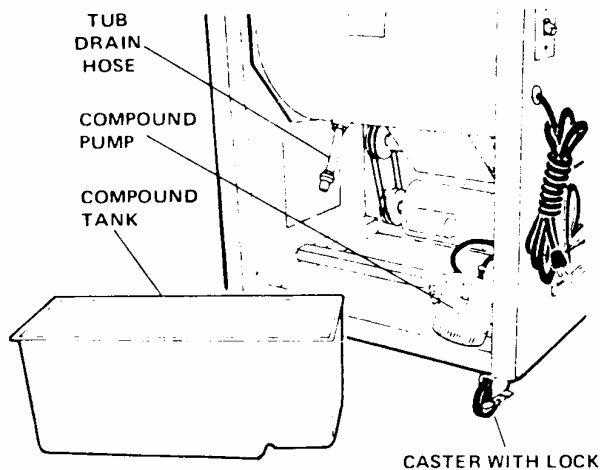

Figure 2-5. Compound Tank Removed (Model 2016)
5. Remove compound tank from unit. (See fig. 2-5.)
**NOTE:** One of the casters has a brake (large wing type nut on side of wheel). The most convenient location for the brake caster is the corner directly under the motor starting switch. (See fig. 2-5.)